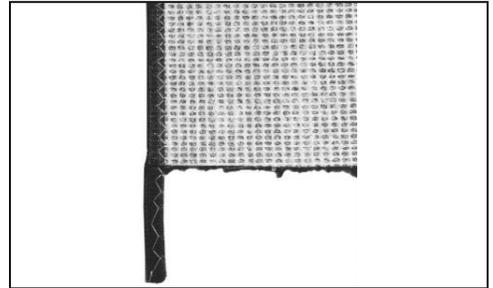

FIG. 18
1. Sew first side leaving a 2-3" tail (Figure 18).